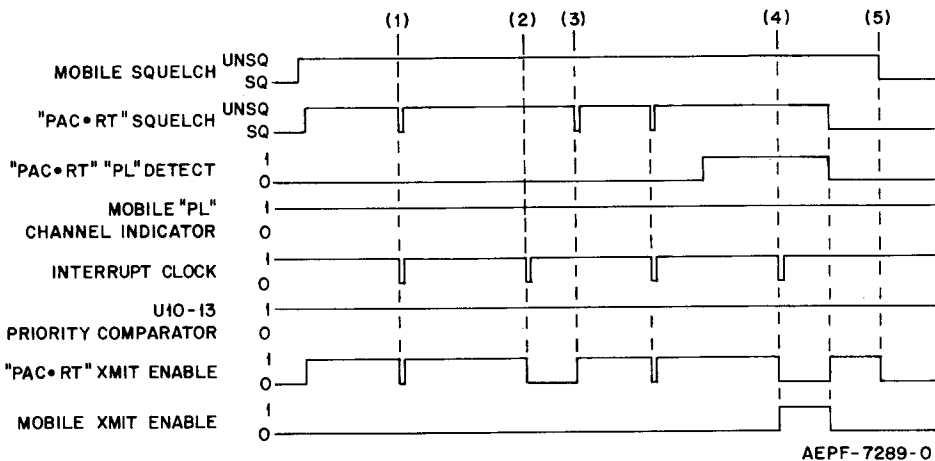

Figure 19. Portable Interrupt/Portable Priority Timing Diagram
In Figure 19, condition (1), the first interrupt pulse does not detect the presence of portable frequency carrier, causing the PAC•RT Transmit Enable line to go low for the duration of the interrupt pulse and then go back high to repeat the base-to-portable message.